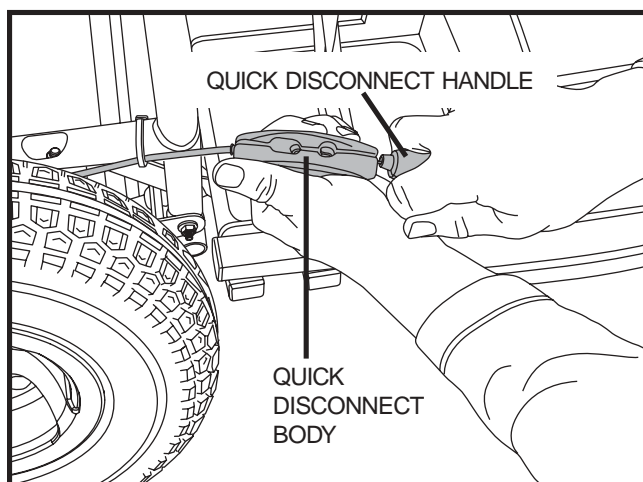

Figure 23. Quick Disconnect Handbrake Cable
1. Locate the quick disconnect body. See figure 23.